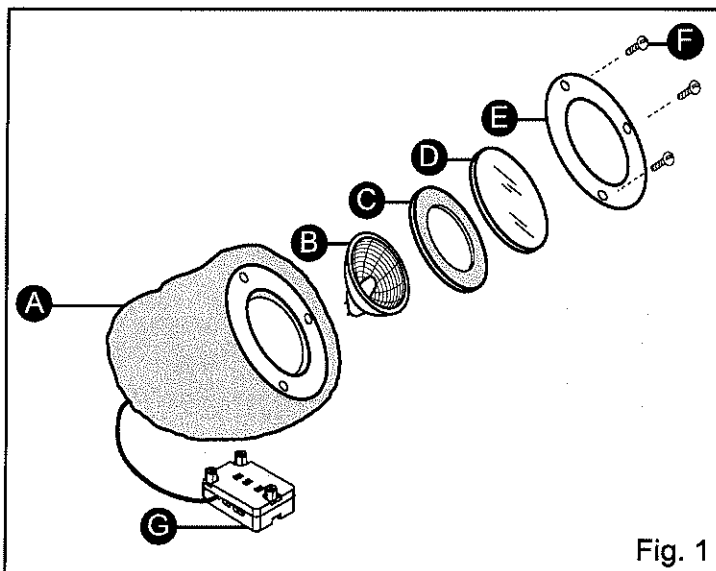

Fig. 1
1. Carefully remove the fixture from its protective packaging. (Fig. 1)
2. This unit is fully assembled, proceed to connect the unit. (Fig. 1)
3. Turn off the power and allow the bulb (B) to cool. (Fig. 1)
4. Remove the three (3) screws (F) by turning counter-clockwise with a Philips head screwdriver. (Fig. 1)
5. Remove the ring (E), the lens (D) and the gasket (C). (Fig. 1)
6. Pull out the bulb (B). (Fig. 1)
7. Insert the new bulb (B) into the bulb socket. Use a soft cloth, as oil from skin may damage the lamp bulb. (Fig. 1)
8. Replace the gasket (C), the lens (D) and the ring (E). (Fig. 1)
9. Attach all the parts with the screws (F) by turning clockwise. (Fig. 1)